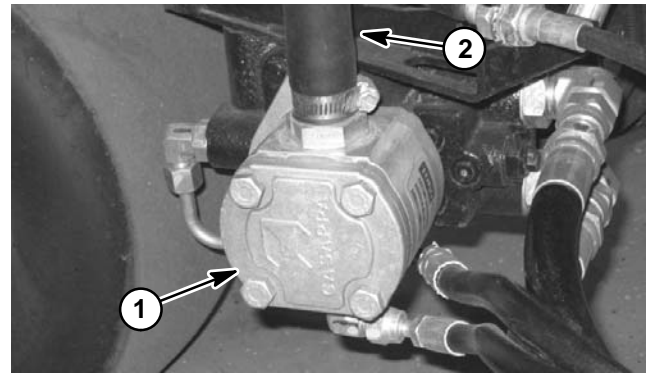

Figure 61
2. Place a clean container, large enough to collect two (2) gallons (7.6 liters), under the pump assembly to collect hydraulic oil.
3. Clamp gear pump inlet hose to control drainage from hydraulic reservoir (Fig. 61). Remove pump inlet hose from gear pump. Release clamp from hose and drain about two (2) gallons (7.6 liters) of oil from the reservoir.
5. Remove four (4) cap screws (item 6), flat washers (item 7), neoprene washers (item 8) and spacers (item 9) that secure leak detector tank to hydraulic reservoir.
6. Thoroughly clean junction of overflow hose (item 4) and leak detector tank barb. Loosen hose clamp (item 3) and disconnect overflow hose from tank barb.
7. Lift leak detector tank slightly and clean junction of valve hose (item 20) at solenoid valve fitting (item 21). Loosen hose clamp (item 19) and disconnect valve hose at solenoid valve fitting.